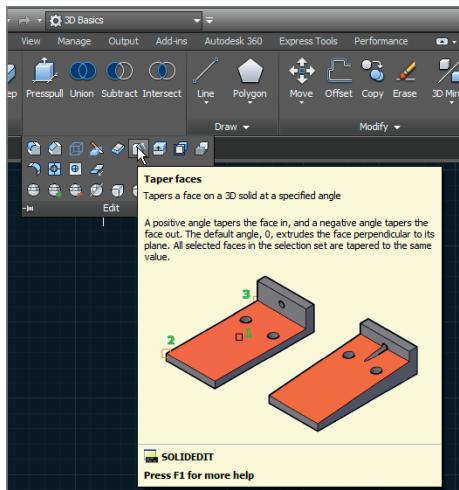

FIGURE 1.12 Tooltip and illustration
- Click the Edit button at the bottom of the Edit panel to reveal additional tools. Hover the mouse over one of the tools to display a tooltip that identifies the tool and describes its function. Holding the cursor still a while longer reveals an image that illustrates what the tool does (see Figure 1.12).
- Observe that the bottom of the tooltip shown in Figure 1.12 reveals the command name (SOLIDEDIT in this case). The ribbon, menus, toolbars, and palettes are all graphical alternatives to typing commands.